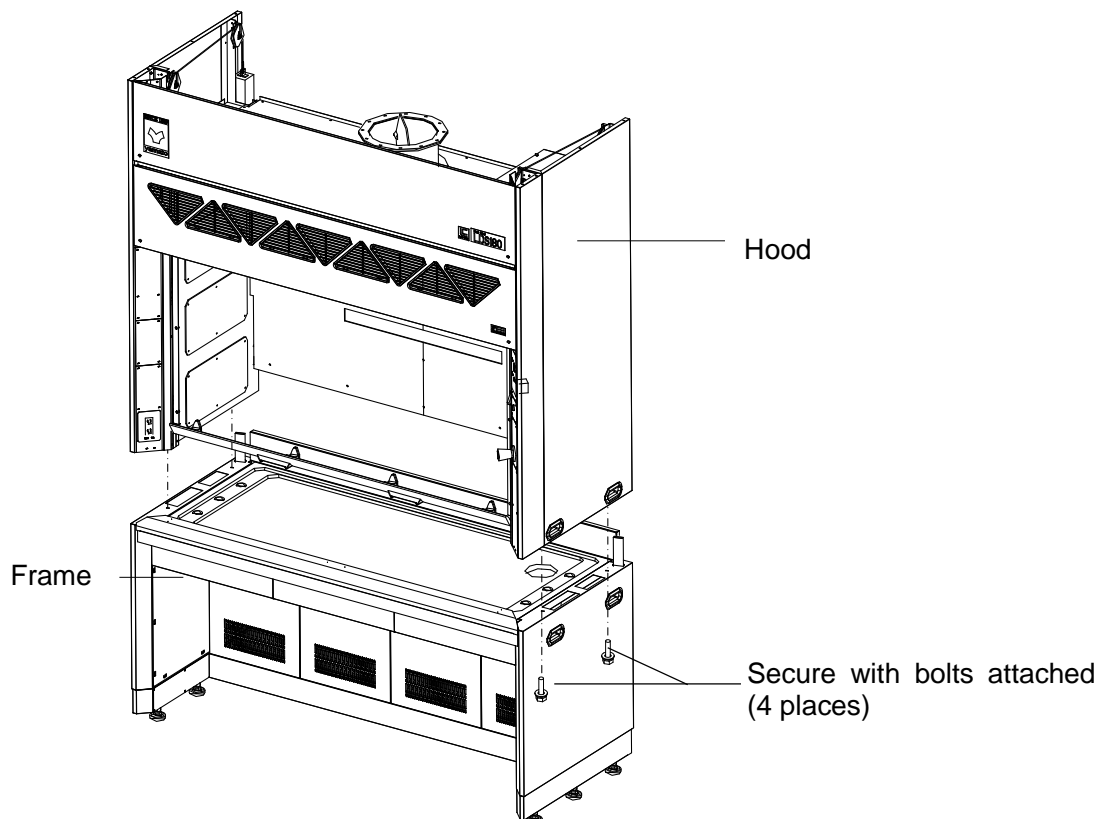

Fig. 2-1
- ④ Install the hood to the frame and secure with the bolts attached. (See fig. 2-1) At this time, measure the outside dimension between front columns of hood and adjust the dimension to that shown in "10. Specifications (P. 411)" (If the dimensions differ, rattling of door or faulty operation may be caused).